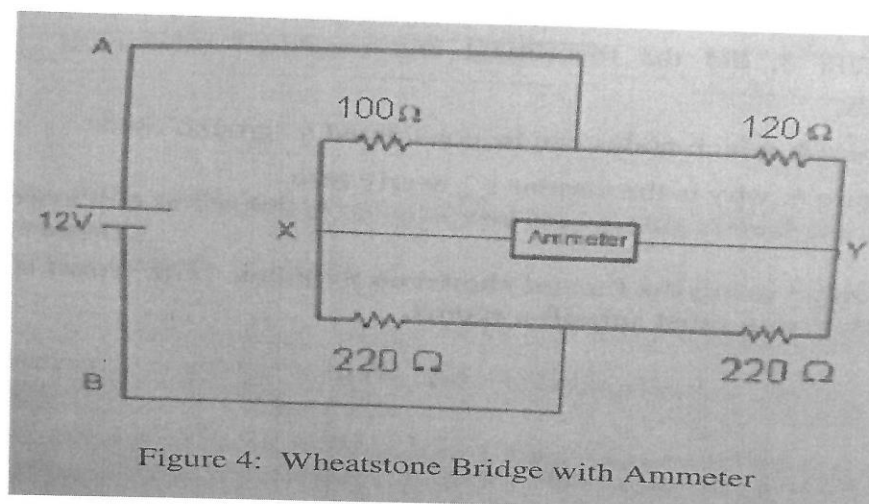

Figure 4: Wheatstone Bridge with Ammeter
13. Turn off the power supply and modify the circuit as in Figure 4
8. For Figure 4, which nodes can be considered a "ground" node.